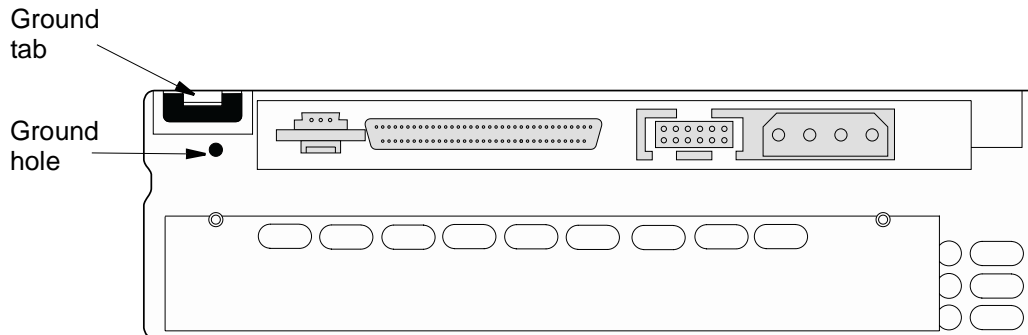

Figure 4-6 Ground tab and ground hole locations (SCSI drive shown)
- Connect a 1/4-inch female spade connector to the ground tab (shown in Figure 4-6).
- Connect an M2 × 0.4 × 6 mm self-tapping screw to the ground hole (shown in Figure 4-6).